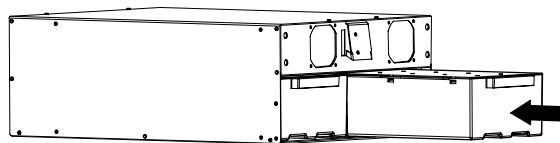

Figure 1. Installing the Battery Trays
2. Slide the battery trays into the chassis (see Figure 1).